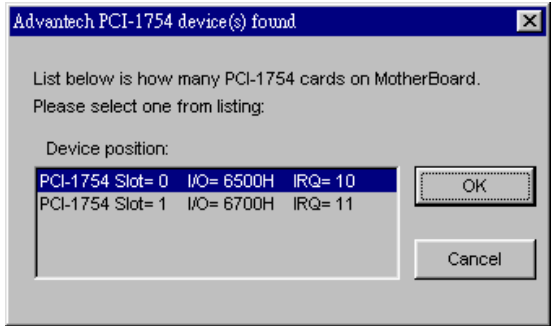
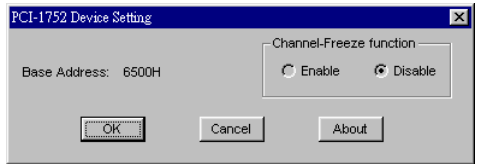

Fig. 2-8 The “Device(s) Found” dialog box
Fig. 2-9 The Device Setting dialog box of PCI-1752
**Step 4:** Scroll down the *List of Devices* box to find the device that you wish to install, then click the **Install** button to evoke the *Device(s) Found* dialog box such as one shown in Fig. 2-8. The *Device(s) Found* dialog box lists all the installed devices on your system. Select the device you want to configure from the list box and press the **OK** button. After you have clicked **OK**, you will see a *Device Setting* dialog box such as the one in Fig. 2-9 and 2-10.
**Step 5:** On the *Device Setting* dialog box (Fig. 2-9, 2-10), you can enable/disable the Channel-Freeze function of PCI-1752/1756 or configure the interrupt functions of each digital input group of PCI-1754/1756.